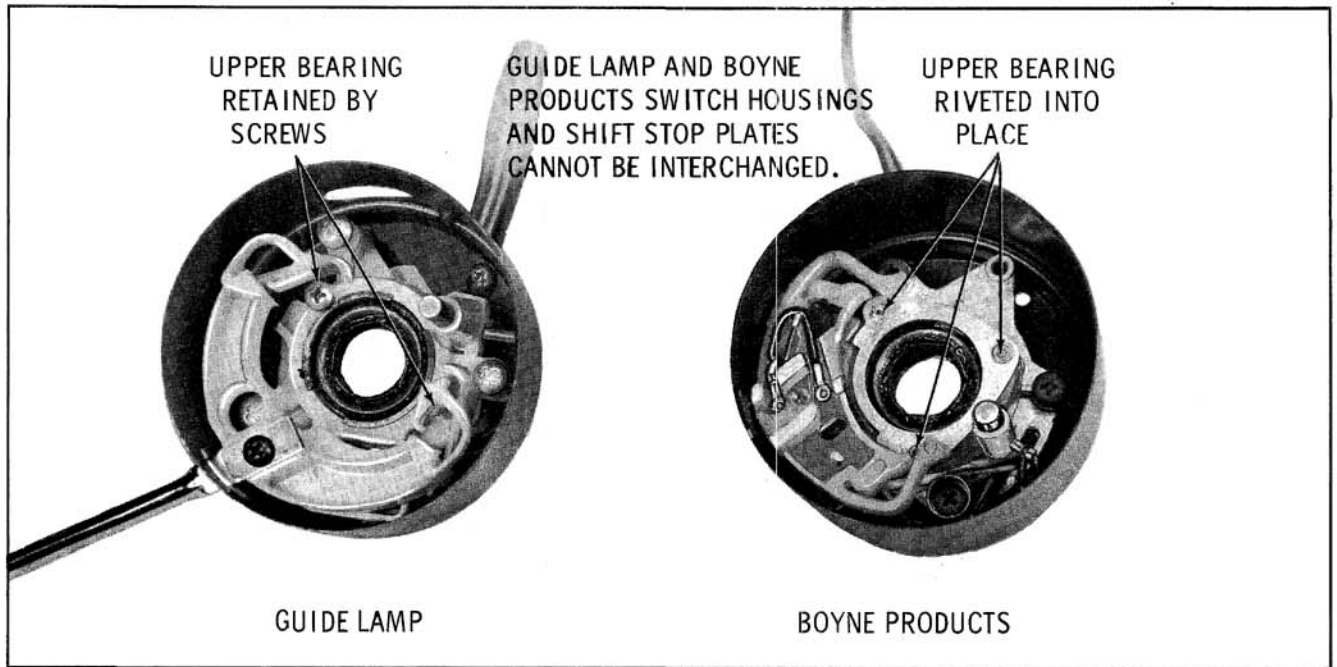

Fig. 8-78 Turn Signal Switch
6. Tighten the three switch retaining screws. (Fig. 8-78)